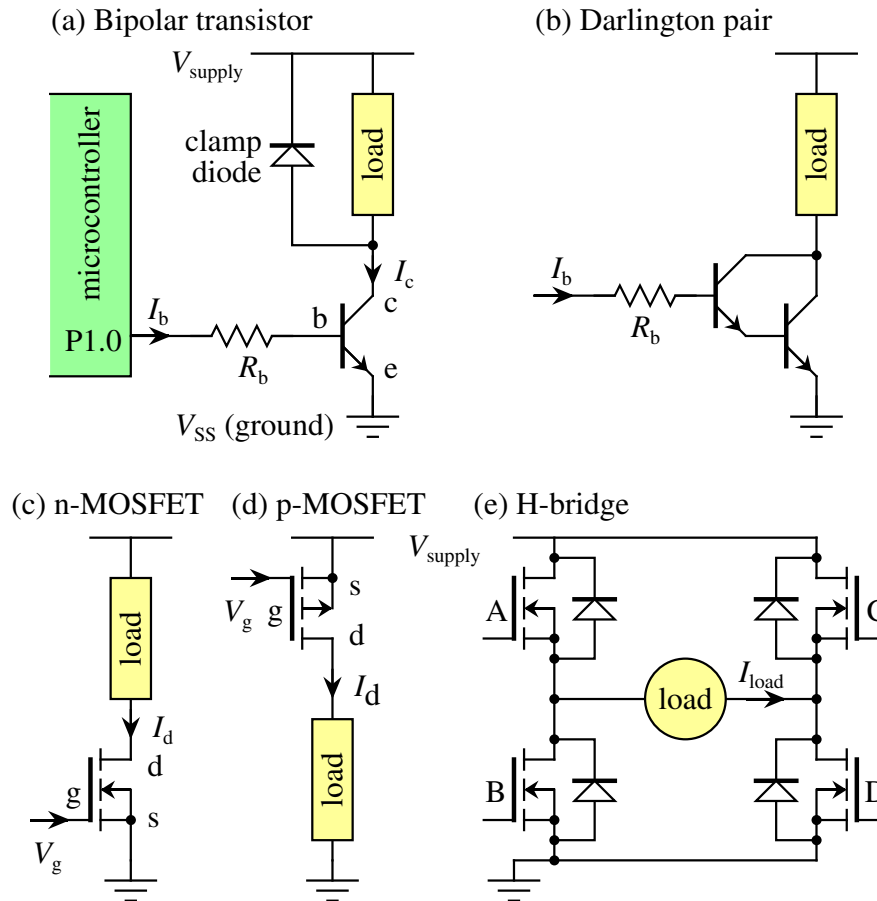

Figure 11. Standard circuits for switching a load on and off, controlled by a microcontroller or other digital system.
Solution. The general approach is to use a ‘low-side’ switch between ground and the ‘bottom’ of the load. This can be an npn bipolar transistor or an n-channel MOSFET. See figure 11 for standard circuits. We cannot use a ‘high-side’ switch between the load and its 12 V supply because the digital system would have to produce 12 V to turn the transistor off, which it cannot do with only a 5.0 V supply. (In practice you need to do this sometimes and can use another transistor as a level shifter. Special devices are available for when the supply is at a much higher voltage and might endanger the digital system.)
The circuit is shown in figure 11(b) and we need to calculate R_b . The voltage on the base of the Darlington pair is about 1.5 V, twice the normal value because the emitter–base junctions of the two transistors are connected in series. The output of the digital system is at 5.0 V, which leaves $(5.0 - 1.4) = 3.6 \text{ V}$ across the resistor. The value of resistance is therefore $R_b = (3.6 \text{ V})/(2.0 \text{ mA}) = 1.8 \text{ k}\Omega$. This is a standard value.
- (c) The circuit for the n-channel MOSFET is shown in figure 11(c). The threshold voltage is positive, which is important or the transistor would not switch off when the output from digital system is at ground for logic 0. In other words, we must use an enhancement-mode transistor. No additional components are required but we must check the power dissipation.
Solution. This requires a high-side switch between the load and the 5 V supply. It could be a pnp transistor or a p-channel MOSFET as shown in figure 11(d). This would not work with a 3 V digital system because it would not be possible to turn the transistor off, unless it had an unusually high threshold voltage (the threshold voltage of an enhancement-mode p-MOSFET is negative and it would have to be more negative than -2 V). We would need to use another transistor to drive the p-MOSFET or something completely different, such as a relay. ☹